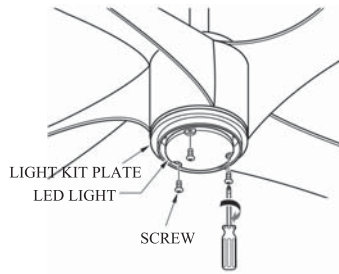

FIG.20
5. Screw back the 3 previously removed screws and tighten the light kit. ( See Fig.20 )